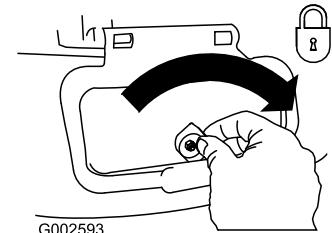

Figure 31
**Important:** Lock the side discharge door after you close it (Figure 31).